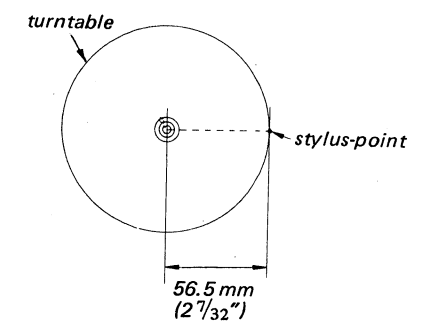

Fig. 3-5
4. Set the position of the stylus as shown in Fig. 3-5 so that the VOM reads 4.4V dc.